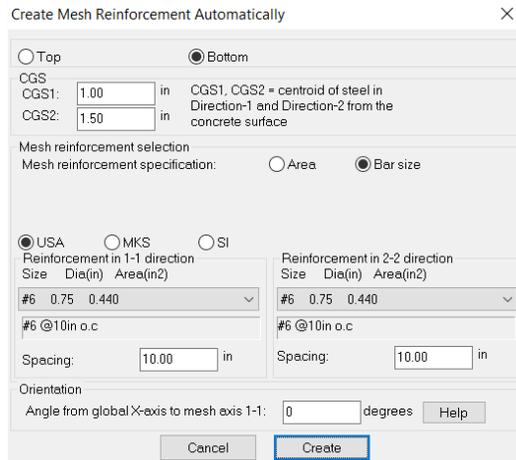

Figure 6.8-13 - Automatic Mesh Reinforcement Dialog
- A dialog box as shown in **Figure 6.8-13** will be displayed. Specify the layer of reinforcement you are going to define as **Bottom** and use the **Bar size** option. For this example, specify **#6 @ 10 in c/c** in both the directions. Click on the **Create** button to add this rebar as user defined base reinforcement. Not that if you are using a different slab for the tutorial, determine what spacing and size of reinforcement is required as mesh rebar to satisfy the initial reinforcement output from the program.